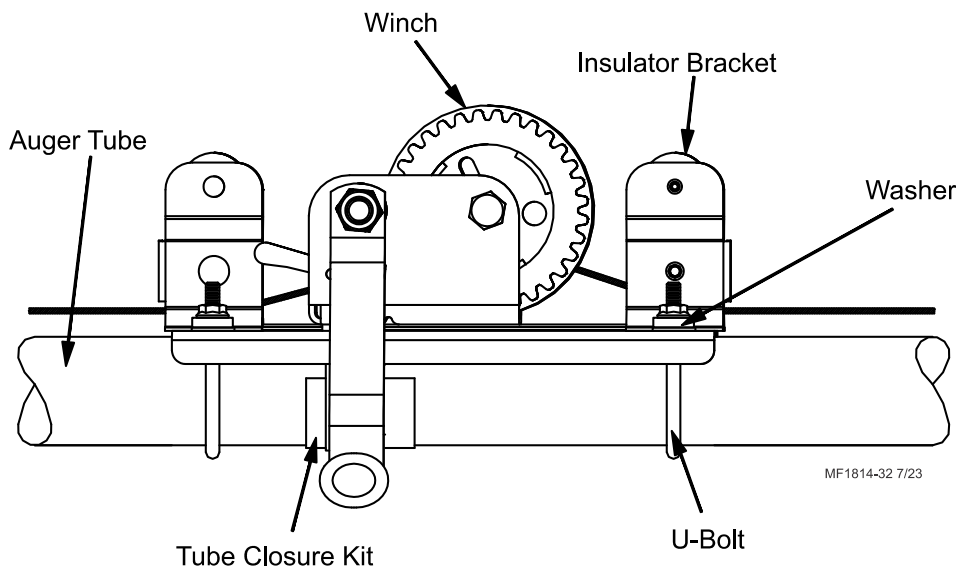

Figure 33. Winch Installation
1. Use two U-bolts provided to fasten the winch to the feeder line tube, **see figure 33**. The winch should be placed in the center of the line of Feed Level Tubes it will adjust, as shown in **Figure 32**.